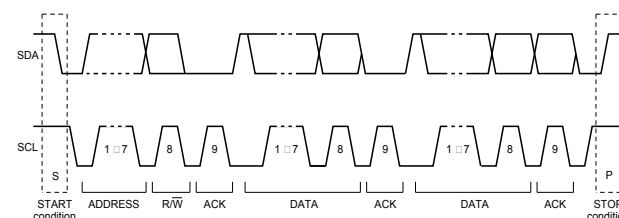

Figure 8: A complete data transfer
Data transfers follow the format shown in Figure 8. After the START condition (S), a slave address is sent. This address is 7 bits long followed by an eighth bit which is a data direction bit (R/W) - a ‘zero’ indicates a transmission (WRITE), a ‘one’ indicates a request for data (READ). A data transfer is always terminated by a STOP condition (P) generated by the master. However, if a master still wishes to communicate on the bus, it can generate a repeated START condition (Sr) and address another slave without first generating a STOP condition.